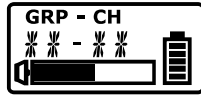

Fig. 10
- (3) The specific group and channel set via PC will display  $\ast\ast - \ast\ast$ . Fig. 10